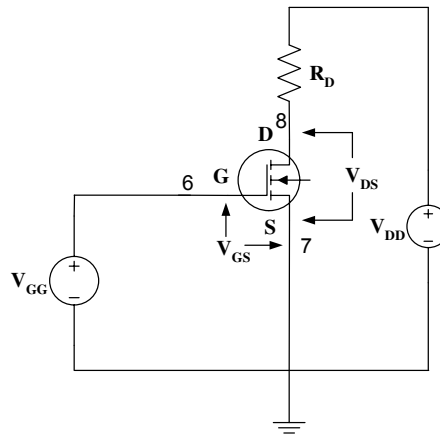

Figure 3. Circuit for measurement of I-V characteristics of an NMOSFET.
4. Connect the circuit as shown in Figure 3 and set $V_{GG} = V_t + 1V$ from the trainer board variable power supply.
1. You have V_t and K_n . Note that here K_n is equivalent to $K'_n(W/L)$ of the text. For three V_{GG} ($V_{GG} = V_{GS}$) values of Figure 3, use the linear (triode) and saturation current expressions to tabulate the I_D for each V_{DS} and plot the I_D - V_{DS} curves using your calculated and experimental data on the same graph. Use MATLAB for plotting.
4. Simulate the circuit shown in Figure 3 using PSPICE. For simulation use MbreakN3 MOSFET and DC sweep analysis with nested loop for the three different values of V_{GG} . To set the parameters, double click on MbreakN3 and set W and L to 1E-6 (1 μ m). Now select MbreakN3 (it will turn red) and go to Edit→Model→Edit Instance Model (Text). Delete everything in the appeared window and write the followings (put your values of V_t and K_n) and click OK.